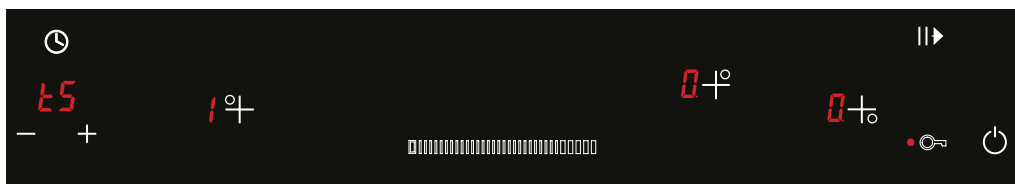

Figure 27
1. To determine the increment value in the programming mode ( **LS** ); if ( **!** ) is active on the first hob, press **+** and **-** keys to allow increment one by one on the next timer setting. (See Fig. 27)